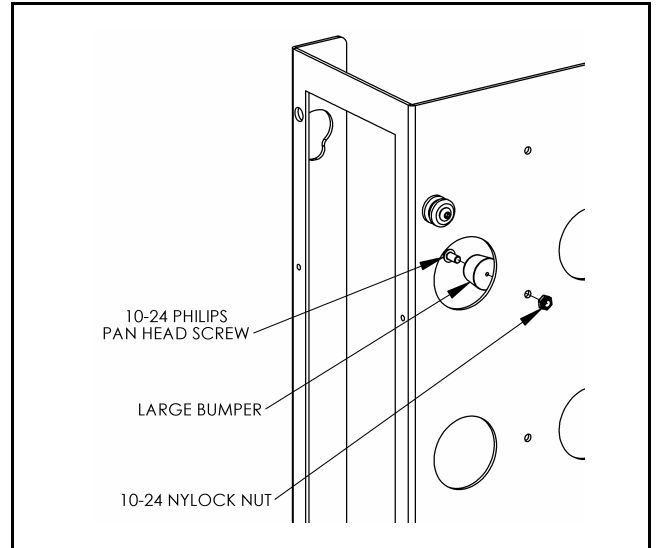

Figure 3
- Attach large bumpers (D), making sure the CPU will rest against the bumpers when installed. (See Figures 3 & 4)